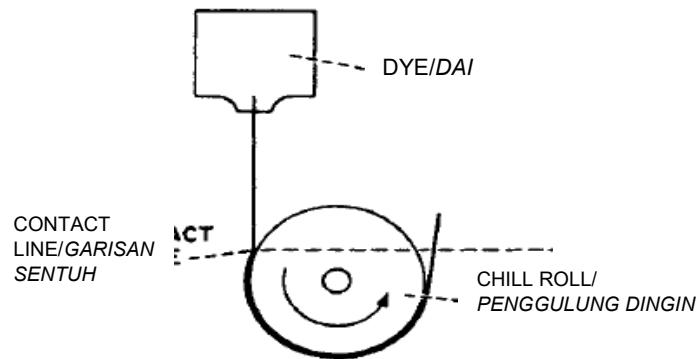

Figure 4: Example of a chill roll system for flat film extrusion setup
- (c). **Figure 4** depicts schematic representation of a flat-film extrusion setup. Using the diagram, identify modes of heat transfer activities that occurred in this kind of shaping procedure?